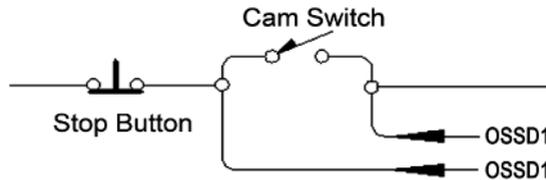

Fig3.3 The muting function is realized by OSSD1
2. If the muting function is realized with the help of AOPD, connect one pair of normal open contact points of cam switch with OSSD1 in parallel, as shown in Fig3.3.